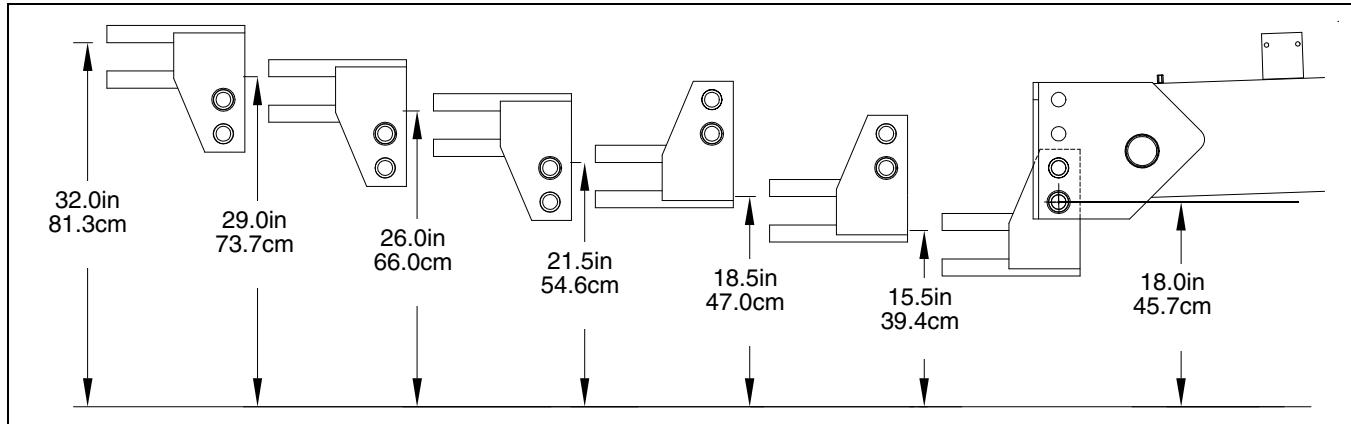

Figure 16
**Refer to Figure 15 and Figure 16**
**Refer to Figure 16**